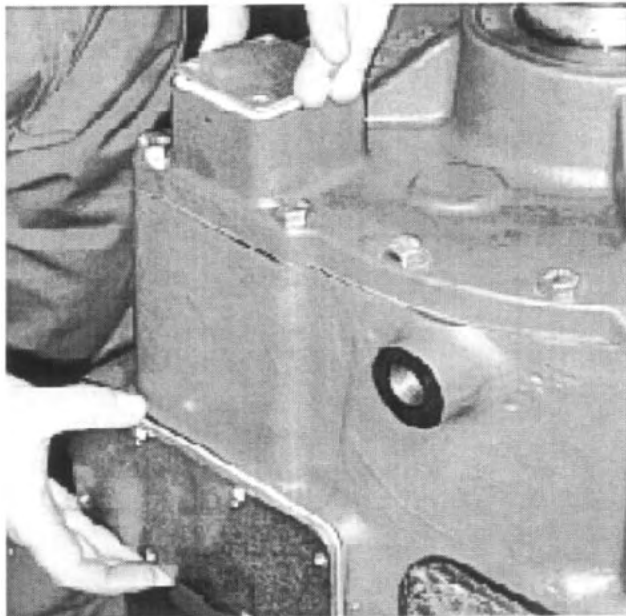

Fig. 5
7. Remove the shift shaft access cover plate and shift cylinder bore cap. *See Fig. 5.*